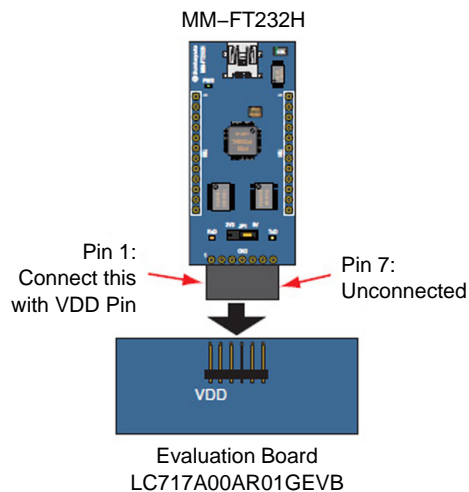

Figure 2. MM-FT232H Connection
Where appropriate, please connect Capacitance touch sensor Evaluation board and Multifunctional USB conversion module as shown in the Figure 2.
1. When receiving power from PC, set Power switching jumper to “PC” side and connect “MM-FT232H” to the connector for Multifunctional USB conversion module (See Figure 2). If receiving power from optional AC adapter, set the jumper to “AC ADAPTER” side and connect AD adapter to DC jack.
1. Connect “MM-FT232H” (See Figure 2).